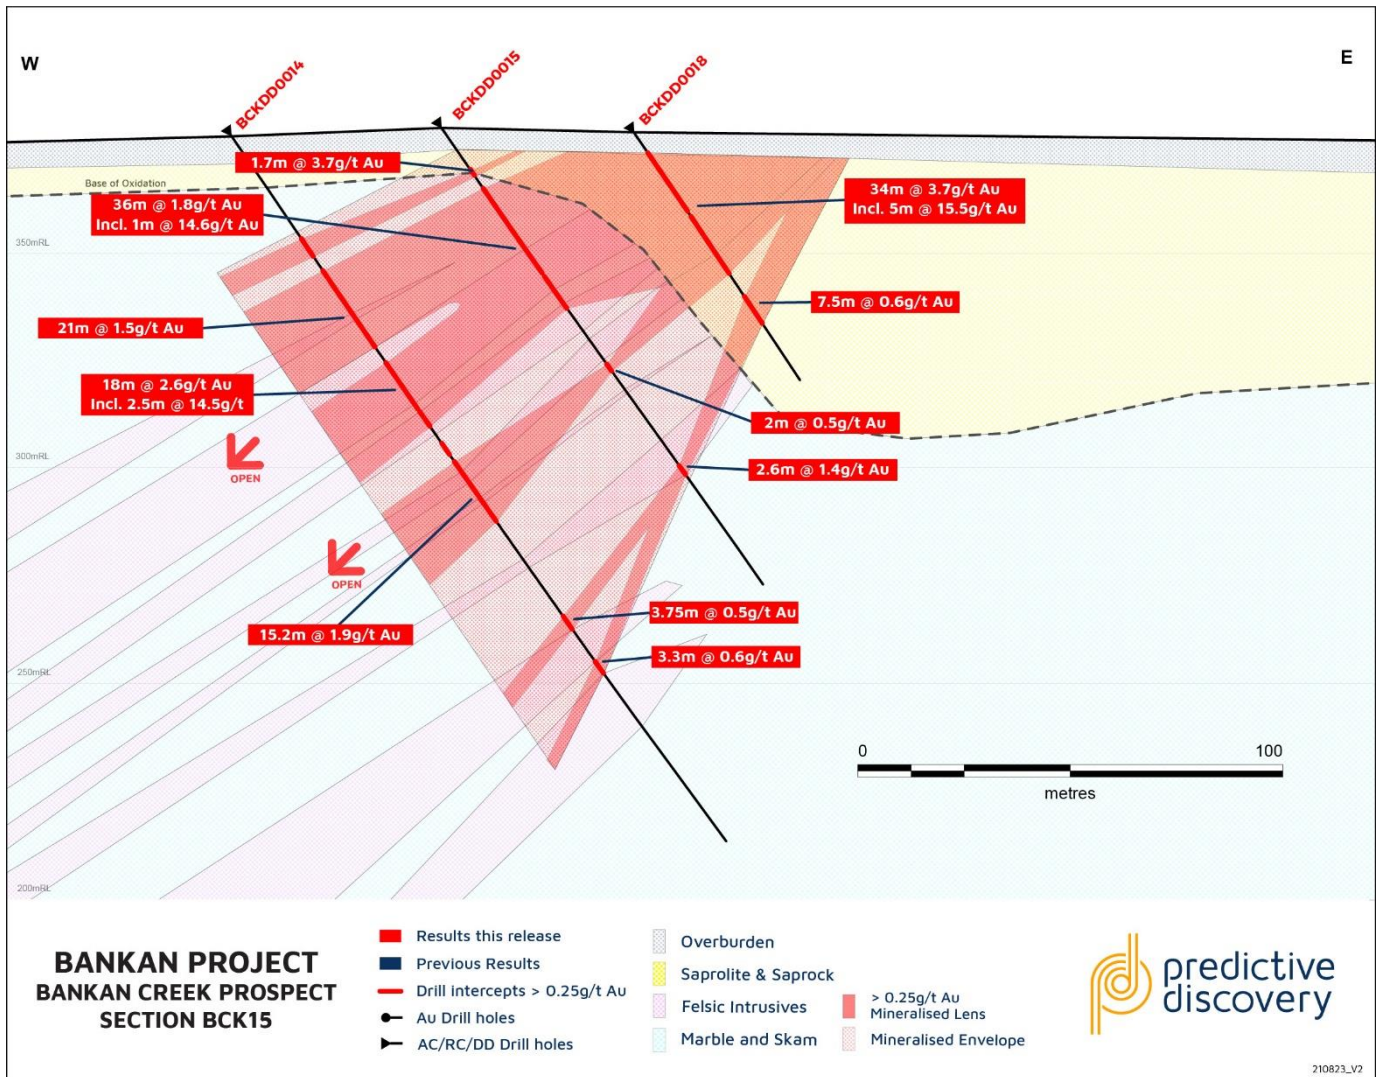

Figure 2 - Bankan Creek Cross Section showing new DD holes BCKDD00014, BCKDD00015 and BCKDD00018 (red result labels).
The new drilling has provided further confirmation of a series of west-dipping gold mineralised zones containing broad widths and some excellent grades, starting from near-surface. For example, BCKDD00018 (Figure 2) returned **34m @ 3.7g/t Au** from 6m. Other impressive intercepts included:
- Projected to a vertical plane orientated NNW (see figure 2).
- Results legend: 70/1.0 (70) = 70m (aggregate true widths within the gold mineralised envelope) with length weighted average grade of 1.0g/t Au. Aggregate true width x grade in brackets.